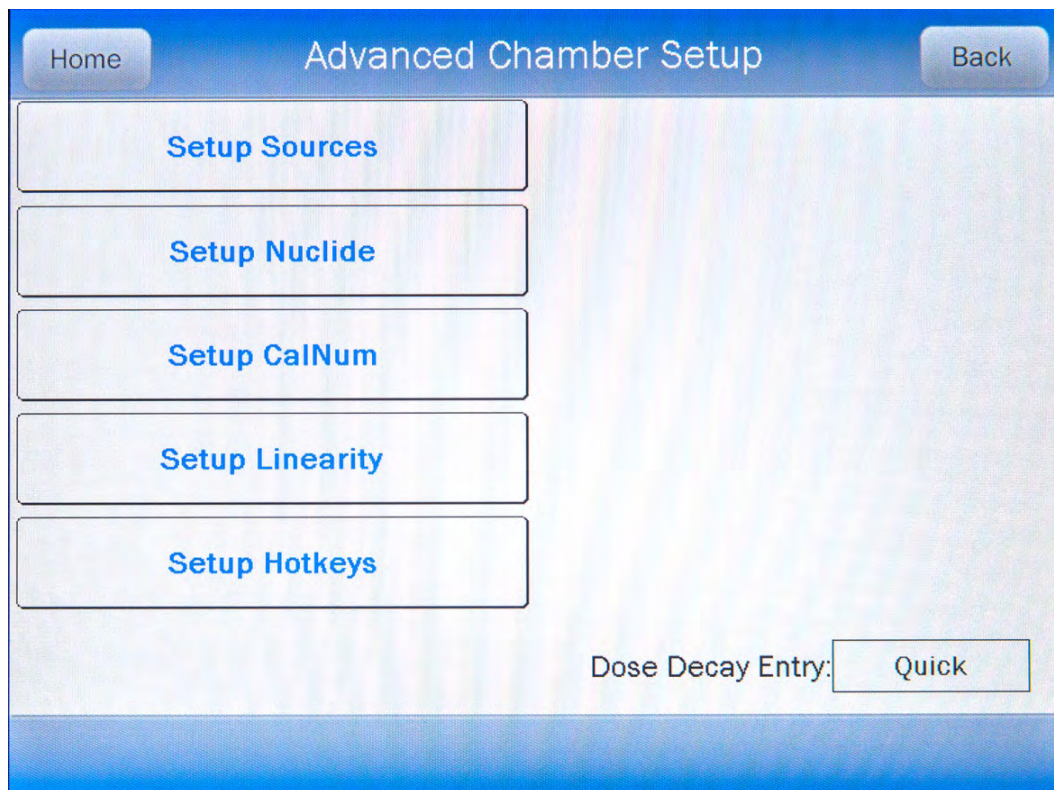

Figure 6-9 Advanced Chamber Setup Screen
Input the password (the last 3 digits of the Readout serial number) by touching the appropriate numbers on the keypad. Touch the **ACCEPT** button to accept the password. Figure 6-9 Advanced Chamber Setup Screen will appear.
5. Touch the **ACCEPT** button in the lower part of the Setup Sources screen. Figure 6-9 Advanced Chamber Setup Screen will appear.